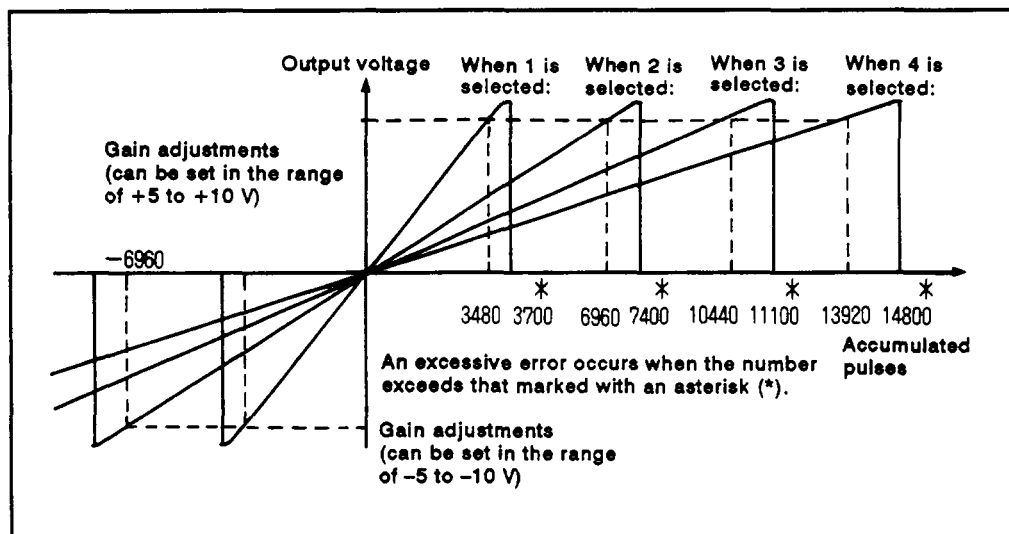

Fig. 5.2 Relationship Between the Number of Accumulated Pulses and Analog Voltage Output
- (d) The output voltage from the A70AF is as shown in Fig. 5.2 depending on the number of accumulated pulses.
Therefore, selecting the gradient from Fig. 5.2 for which the output voltage is not saturated when the number of accumulated pulses is 13333 leads to 'SELECTION ([SW1]: ON; [SW2]: ON)'.
- (e) When the number of accumulated pulses exceeds the value marked with an asterisk (\*) in Fig. 5.2, an excessive error occurs and the following status is developed.